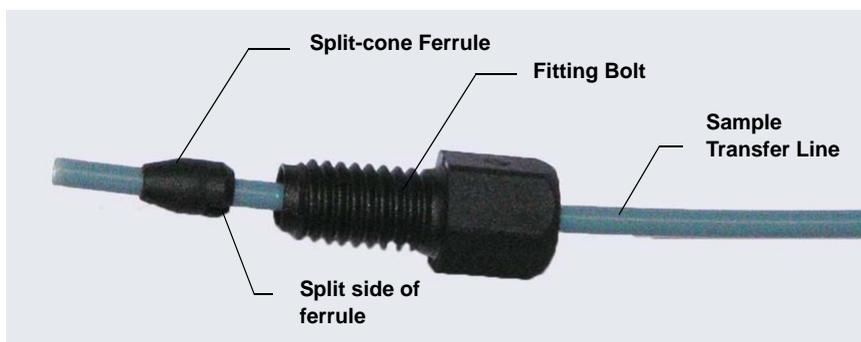

Figure 5-42. Sample Transfer Line Fitting
- c. Slide the fitting bolt onto one end of the tubing. Orient the new split-cone ferrule with the split side facing toward the fitting bolt, and then slide the ferrule onto the tubing (see Figure 5-42).